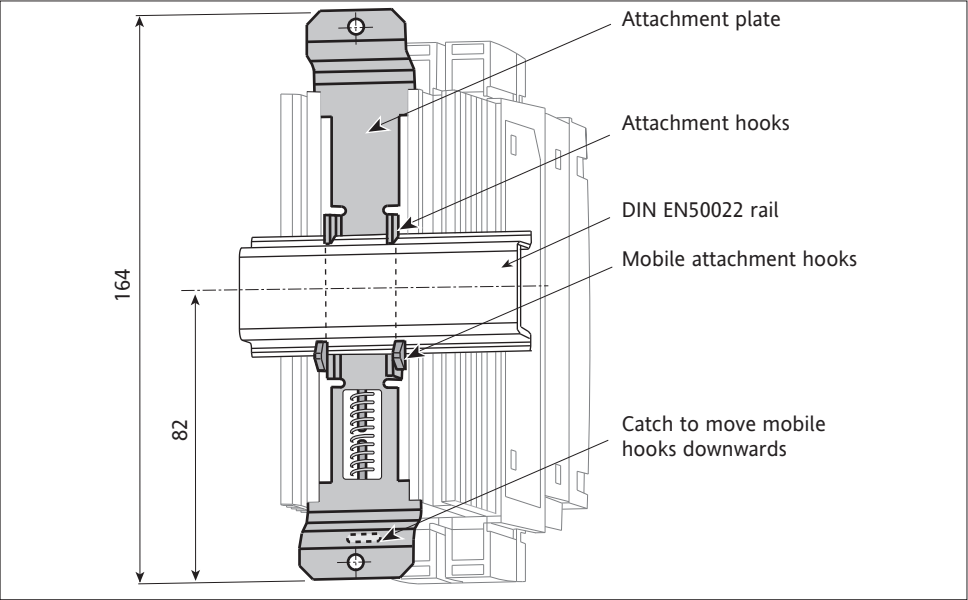

Figure 2-1 Attaching the 7100S solid state contactor to a DIN rail (16 A to 63 A, rear view)
- two fixed hooks and two mobile hooks for clipping to a DIN rail; the mobile hooks are moved using a catch and spring (figures 2-1 and 2-2)
For **DIN rail** mounting (figures 2-1 and 2-2):